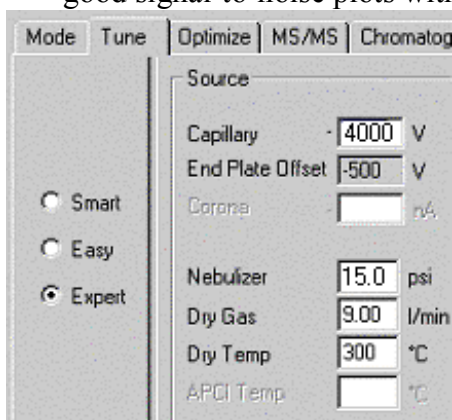
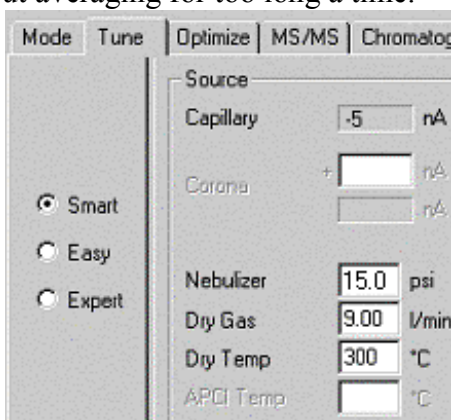
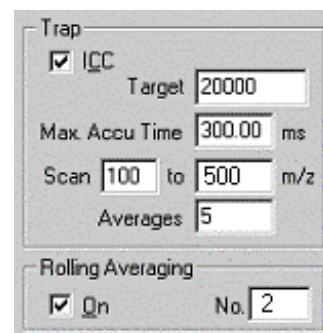

Figure 2. The capillary voltage.
Figure 3. Source settings
Figure 4. Rolling Averages
2. The `iCH242dip.m` method should already be started when you get to the MS. Select the `i Tune` tab, Figure 2, and the `i Expert` mode. Verify that the capillary voltage is 4000V. Switch to the `i Smart` mode and verify the source settings as in Figure 3. Check the MS scan range and Rolling Averaging as shown in Figure 4. The 2 rolling averages will give good signal-to-noise plots without averaging for too long a time.